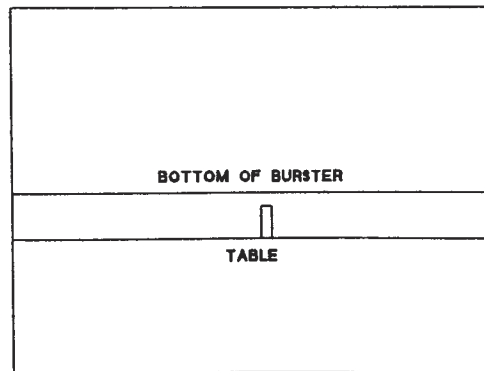

Fig 2
8. Set burster on table, lining up holes in table with holes in burster frame. (Fig.2)